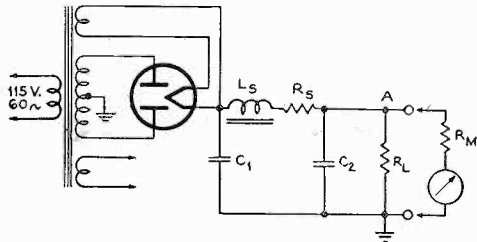

Fig. 1. A conventional low-voltage power supply circuit. The meter resistance is in shunt with the load resistance.
Fig. 1 illustrates a conventional power supply such as may be used in a television receiver to supply B-plus voltages. The resistance R_s is equal to the sum of the resistance of the choke, the rectifier tube, and the transformer winding. Since these resistances are all in series they can be replaced by one resistance, R_s . Let us assume that R_s is 500 ohms. The load on the power supply has been replaced in Fig. 1 by the shunt resistor R_L . The value of this resistance is equal to the voltage at point A divided by the load current. For example, if the voltage at A equals 275 volts and the load current equals 100 ma, R_L would be equal to 2750 ohms.
The plate circuit of a triode amplifier is shown in part (A) of Fig. 2. The 275-volt B-plus voltage is obtained from a power supply as shown in Fig. 1. Assuming that the tube draws 1 ma plate current, the drop in the plate resistor will be 200 volts and the d-c voltage on the plate of the tube will be 75 volts.